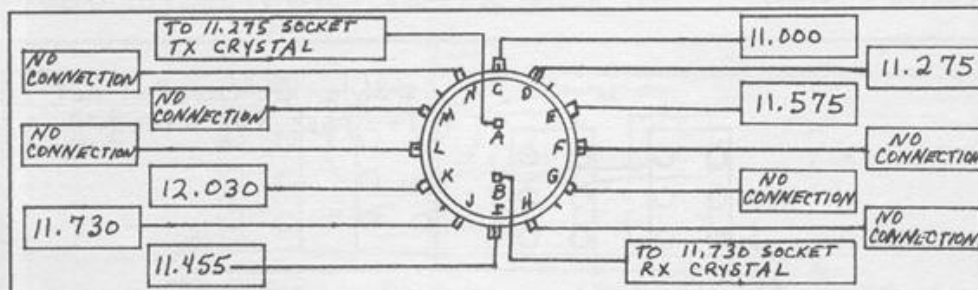

FIGURE 1. 23 CHANNELS RADIOS
3. REFER TO FIGURE 1. ADD THE NEW CRYSTALS AS SHOWN. CONT.NOTE: BE CAREFUL TO KEEP THE RECEIVE CRYSTALS AND THE TRANSMIT CRYSTALS IN THE CORRECT SEQUENCE ON SWITCH 1.